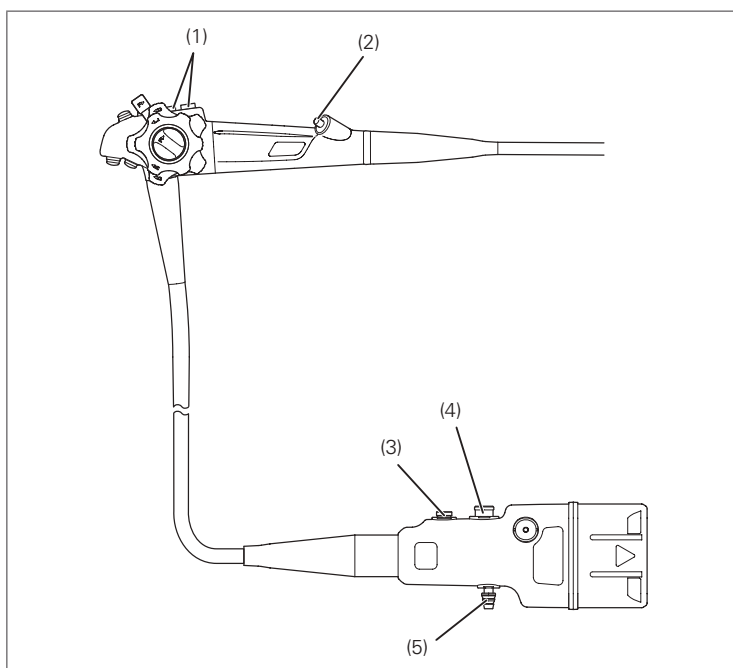

Figure 3.8
11. Check the control body, scope connector, and electrical contacts for abnormalities such as scratches, deformities, loose parts, etc. Pay special attention when checking the parts shown in the Figure 3.8. Using a clean lint-free cloth, gently hold these parts and move them in various directions to ensure that there are no abnormalities such as looseness.